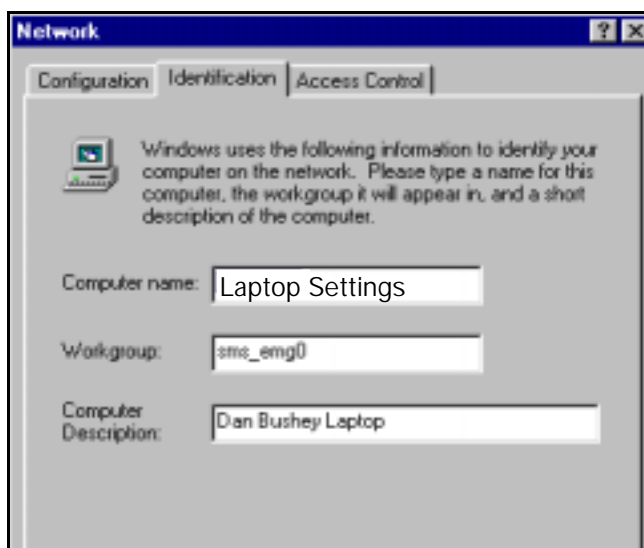

Figure 8-5 Network window
- 6) At "Network" window (see Figure 8-5) click on *Identification* Tab.